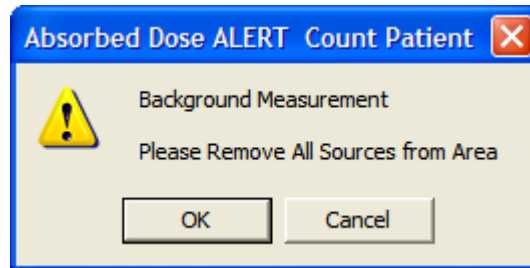

Figure 9-22
4. Click the **Background** button or press *Alt+B* to measure background. Figure 9-22 will appear.